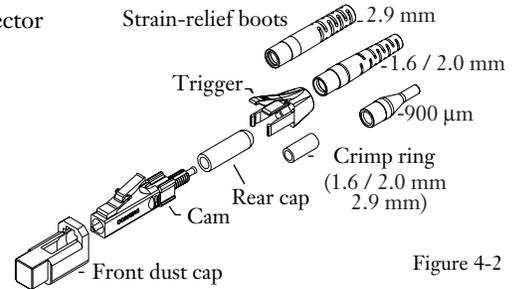

Figure 4-2
**4.2-1** Each LC UniCam connector package contains the parts shown in Figure 4-2.